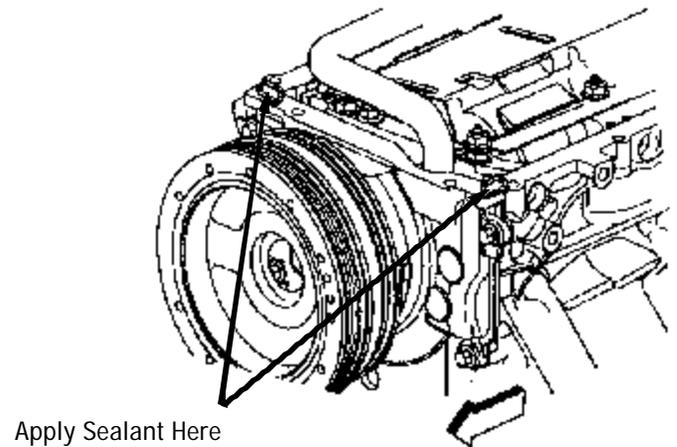

Figure 3 - Sealant Locations
10. Apply a small amount of sensor safe RTV silicone to the areas of the front cover that meet the oil pan sealing surface (*See Fig. 3*). Tighten the oil pan bolts.